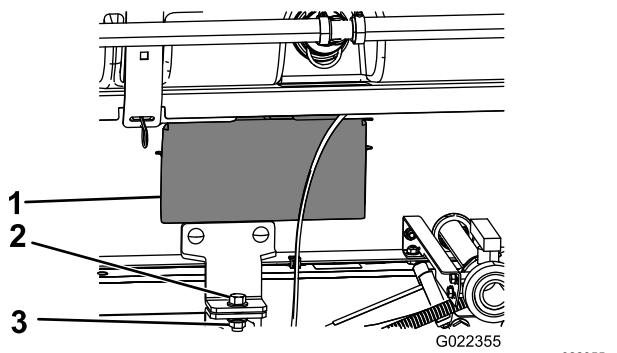

Figure 36
- Remove the access panels at both sides of the skid frame (Figure 36).
each side of the machine with a bolt (1/2 x 1-1/2 inches) and a locknut (1/2 inch) as shown in Figure 36.